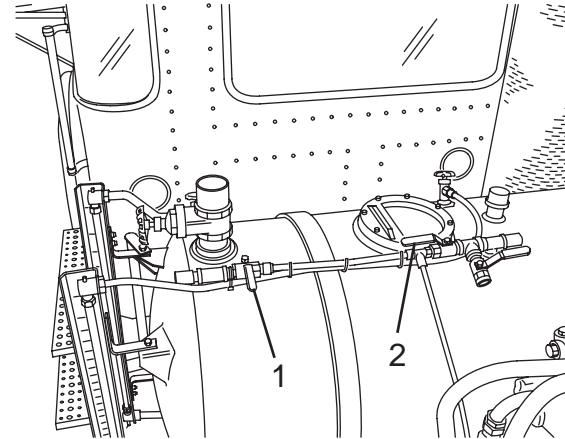

Figure 68
1. Open the air valve (Figure 68, Items 1 or 2) of the tank compartment to be pressurized. If equipped with an optional split tank, each compartment will have its own valve.